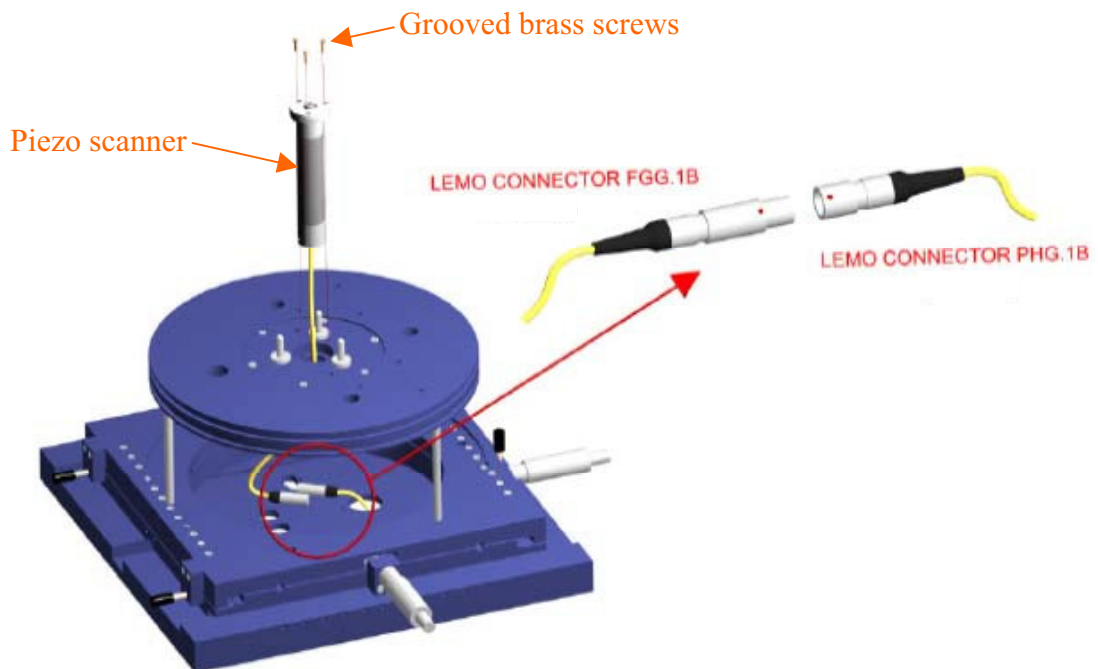

Fig.2.9 Piezo scanner assembly
- Connect the piezo scanner to the chassis through the LEMO connectors (see Fig. 2.9), making sure that you align the red points in each of them. Listen for a “click” when connecting them together. The high voltage signal to the piezo scanner is supplied through this connector.